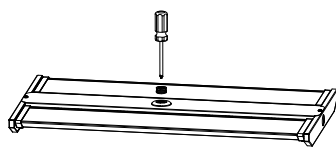

Figure 12
- Step 1. Use a screwdriver to remove the 1/2 plug from the sensor; (Figure 12)